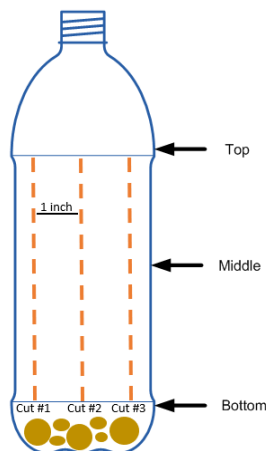

Figure 1. Modified Bottle
- Clear plastic bottle with slits (Figure 1)
2. Using gloves, rinse the bottle and cap 2X with DI water and check for optical brightener contamination using a UV LED black light flashlight. Tie monofilament line or rope around the bottle neck, ensuring it's long enough for full submersion. Using gloves, rinse the scalpel with DI water and cut up to 5 evenly spaced 4–6-inch slits along the bottle to allow water flow while protecting the tampon (Figure 1).